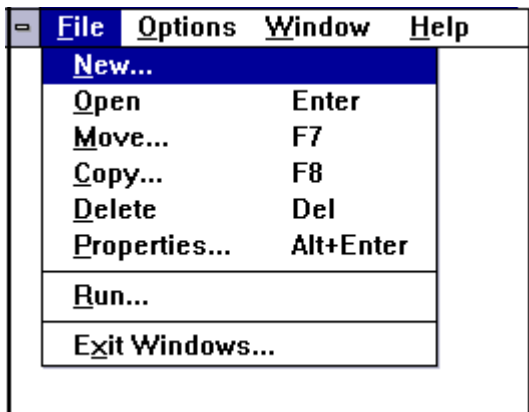

Figure 3-9.
3. CLICK on FILE or press ALT + F (see Figure 3-9)